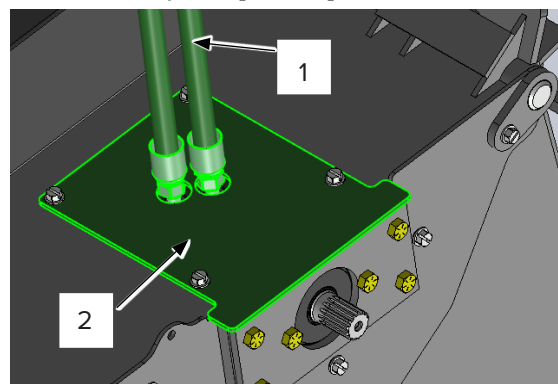

Figure 8
7. Remove the hoses [Figure 8, Item 1] and the motor cover plate [Item 2].